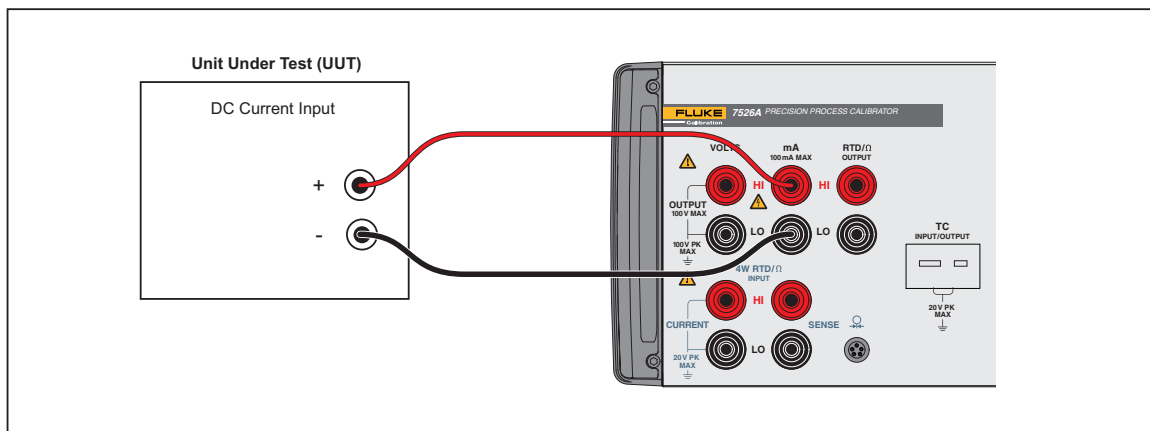

Figure 2-2. DC Current Output Connection
4. Connect the UUT to the current output terminals of the Product as shown in Figure 2-2.